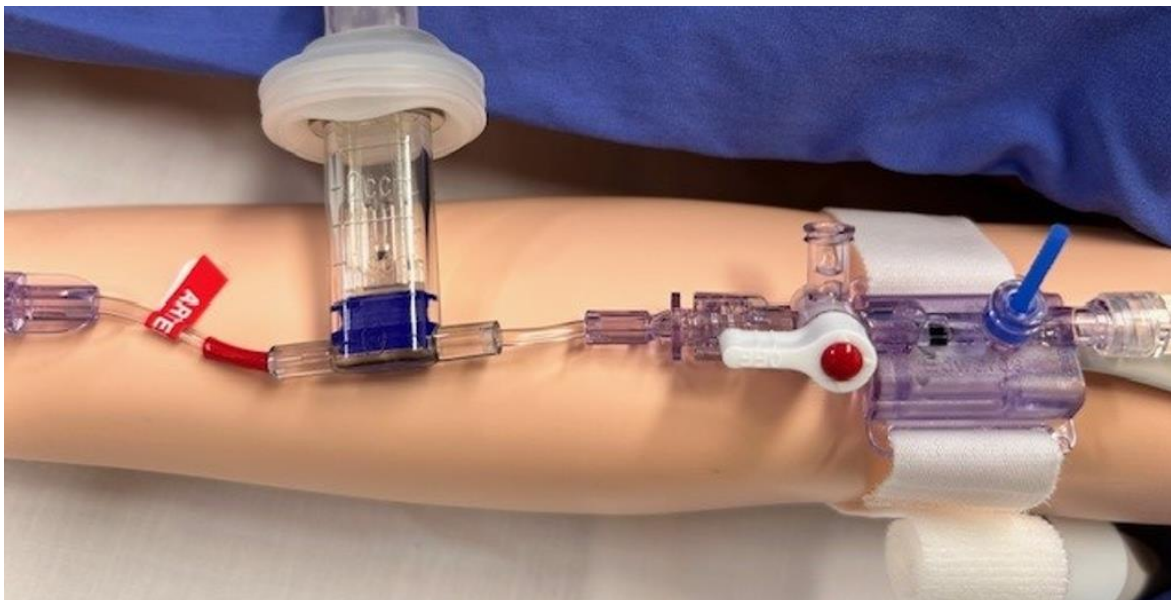

Figure 4.
- Remove the cap to open the transducer line to air. (See Figure 4 Below)